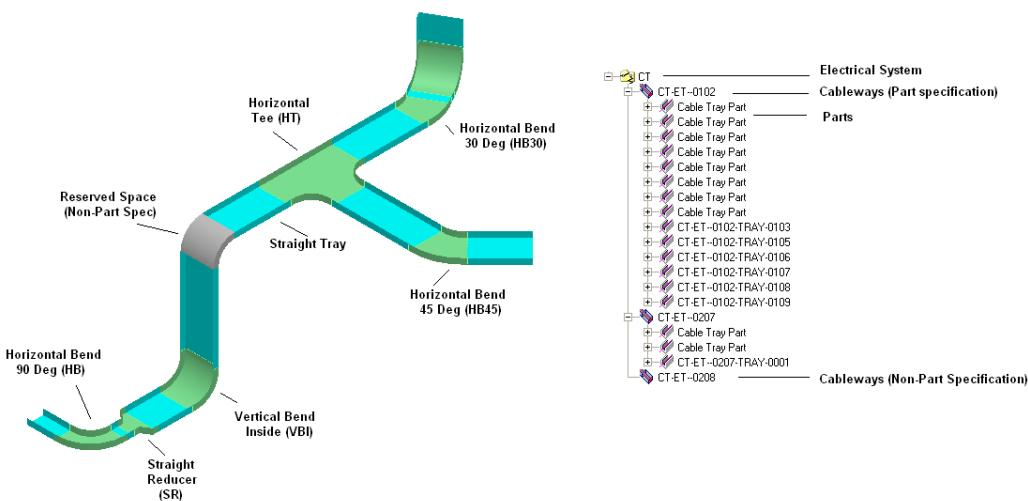

Figure 9: Cableway System Hierarchy
- **Part:** It is a term used to describe a catalog item that has true graphics, as opposed to a feature and a run that are simply managers of the part and skin over the graphics. The part brings with it a catalog basis making it a material item that can be ordered or purchased in most cases and represents a source of information for material take-off reports and the like. However, the selection of the part is primarily an indirect thing, with the designer governing the feature and the run and the part ultimately being selected by the details derived from the feature and the run. Figure 9 shows some examples of tray parts that represent a portion of a cableway system. The highlighted portion in the figure shows a section of the **Workspace Explorer** containing the hierarchy of tray parts.